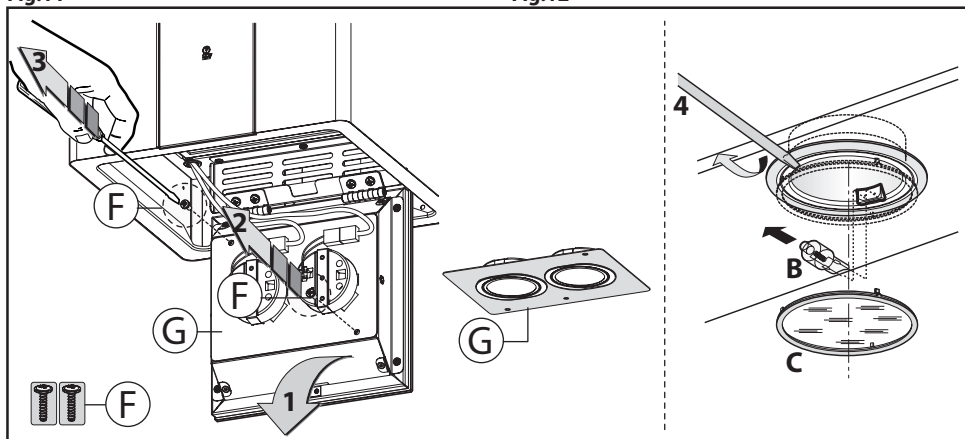

Fig.13
Before proceeding with the replacement of halogen lights it is necessary to open the aesthetic panel figure 13 - phase 1; loosen the two screws **F** lift the small panel **G** as shown in figure 13 - phase 2-3.
• **Replacing halogen light bulbs** (Fig. 13 - phaset 4).